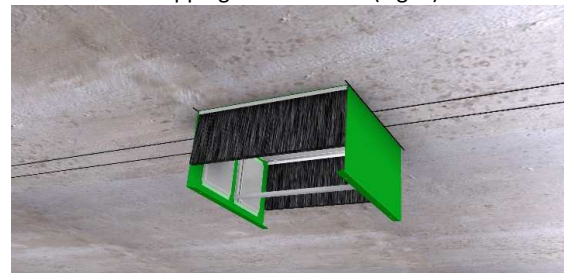

Fig. 1 – Mark wall location and install chassis
1. Measure and mark the location of the proposed Fire Wall and mark the position where the FyreBox is to be mounted on the underside of the slab/soffit. Ensure that the FyreBox is centred at the Fire Wall, ie - ensure the centreline of FyreBox straddles the centreline of the Fire Wall. (Fig. 1)
anchors that do not contain plastics or alloys and are suitably rated for fire stopping installations. (Fig. 1)